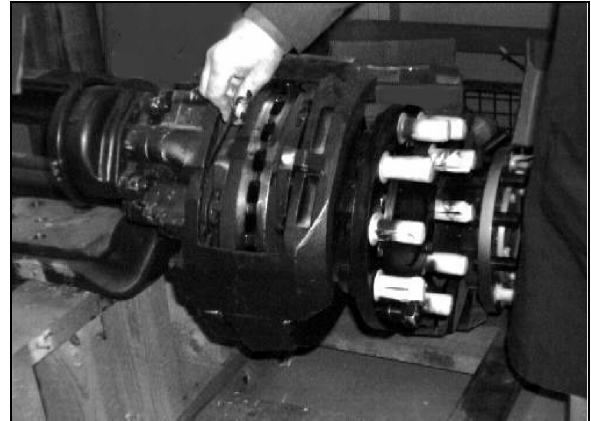

Figure 4
5. Lift & remove brake pad bracket (see Fig. 4).